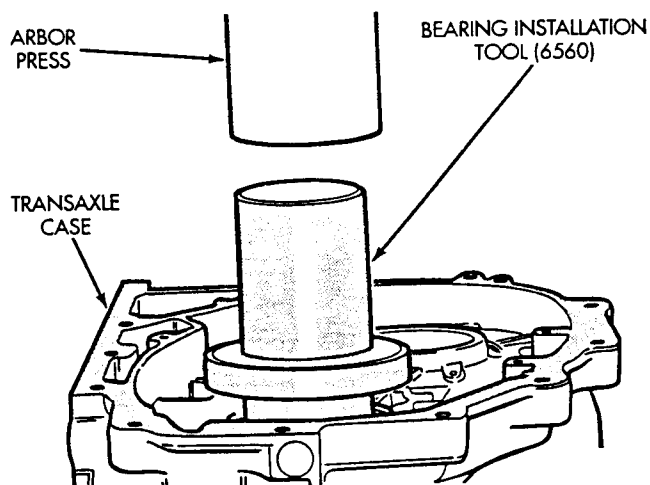

Fig. 33 Transfer Shaft Cone Installation
(37) Install rear transfer shaft cone (Fig. 33). Press cone on transfer shaft using special tool 6560.